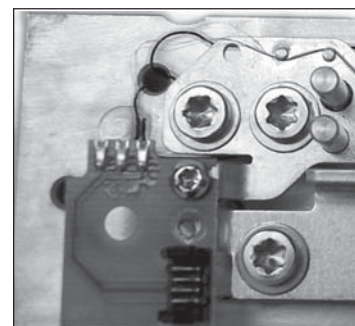

Figure 3-43. Close-Up of Mounting.
2. Remove Contact Board from holder and screw onto the ratio Beam, see Figure 3-43. This is the hole directly above.